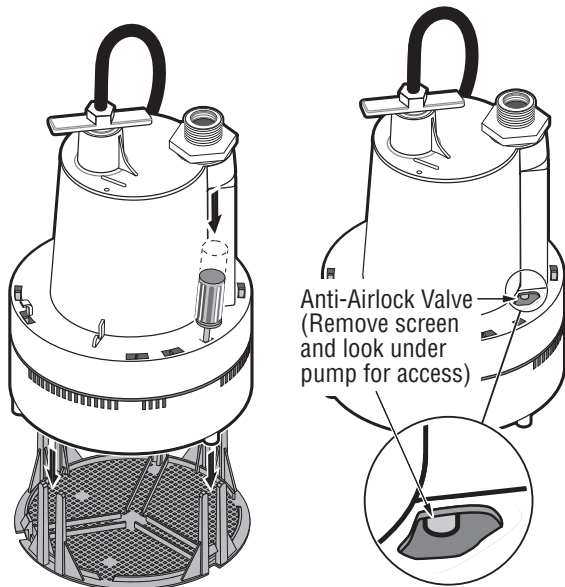

Figure 1 – To clean the screen and anti-airlock valve.
- To clean the screen, use a screwdriver to unsnap the screen (See Figure 1), remove and rinse off the screen.
This pump has a small hole in the side of the pump housing. See Figure 1. This is an anti-airlock valve. If you suspect an airlock, insert a hat pin or a pipe cleaner into the anti-airlock hole to clean out the debris.